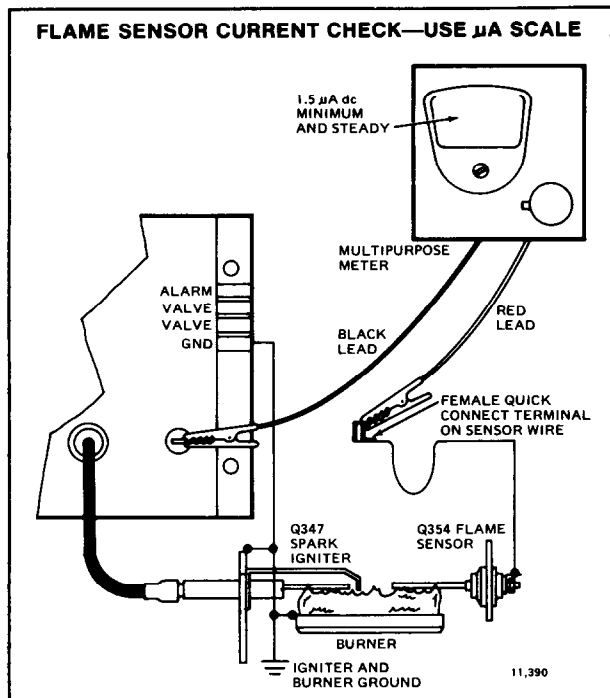

FIG. 9—S87 FLAME CURRENT MEASUREMENT.
1. Connect a meter (dc microammeter scale) in series with the sensor wire as shown in Fig. 9. Use the Honeywell W136A Test Meter or equivalent. Disconnect the sensor wire at the S87D. Connect the red (positive) lead of the meter to the free end of the sensor wire. Connect the black (negative) meter lead to the sensor terminal on the S87.